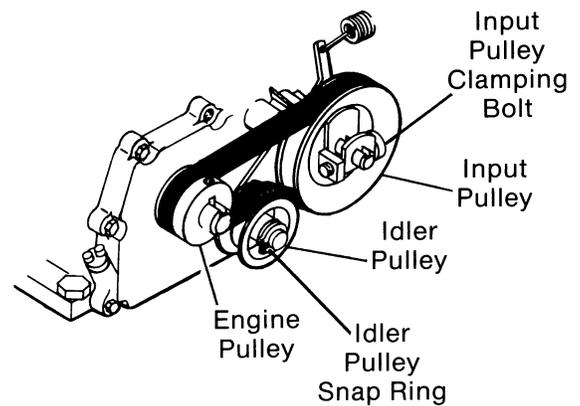

FIG. 20
- H. Remove input pulley by loosening bolt clamping pulley to shaft. (Fig. 20)
- I. Remove idler pulley by removing snap ring from idler shaft. (Fig. 20) Idler shaft and arm is a part of the chain case and cannot be replaced as an individual component under warranty.